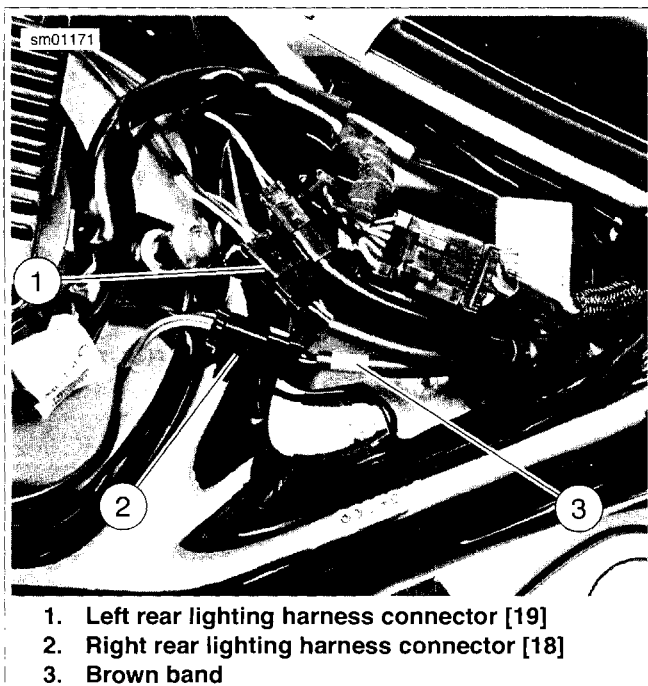
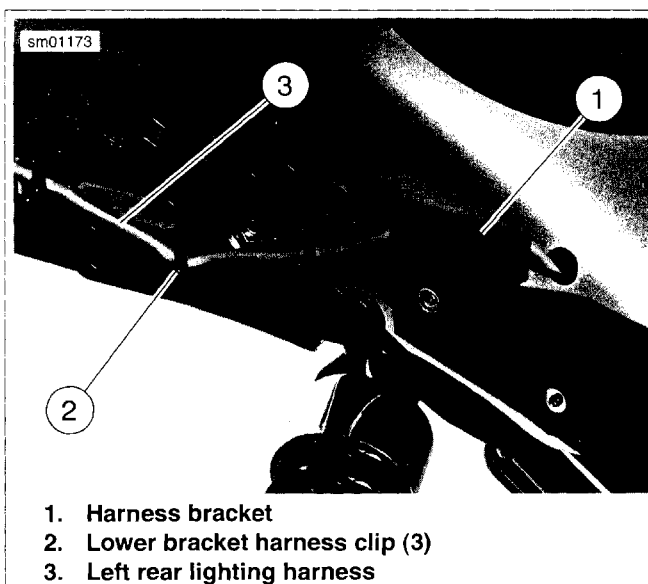
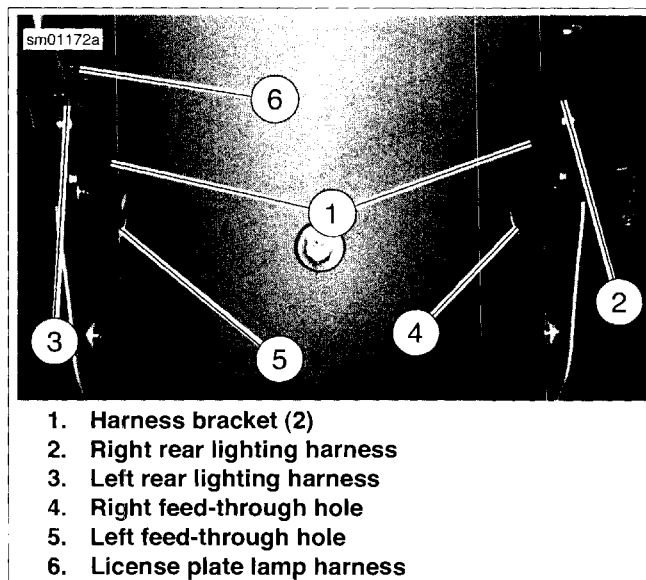

Figure 6-62. Rear Lighting Harness Connectors: XL 883N/XL 1200N
Figure 6-63. Rear Lighting Harness Removal/Installation: XL 883N/XL 1200N (Typical)
Figure 6-64. Lighting Harnesses and Harness Brackets (View from Inside Rear Fender): XL 883N/XL 1200N
3. See Figure 6-62. Unplug rear lighting harness connectors [18], [19] (1, 2).
4. See Figure 6-63. Remove left rear lighting harness (3) from harness bracket (1). Repeat this step for right rear lighting harness.
5. Remove lighting harness from lower bracket harness clips (2). Repeat this step for right rear lighting harness.
6. See Figure 6-64. Pull both rear lighting harnesses (2, 3) through feed-through holes (4, 5) in rear fender.
- See Figure 6-64. Insert each rear lighting harness (2, 3) through feed-through holes (4, 5) in rear fender.
- See Figure 6-63. Install left rear lighting harness (3) into lower bracket harness clips (2). Repeat this step for right rear lighting harness.
- Install left rear lighting harness into harness bracket (1). Repeat this step for right rear lighting harness.
- See Figure 6-62. Plug in both rear lighting harness connectors [18], [19] (1, 2). Note that right rear lighting harness connector mates with connector with brown band (3) on harness.